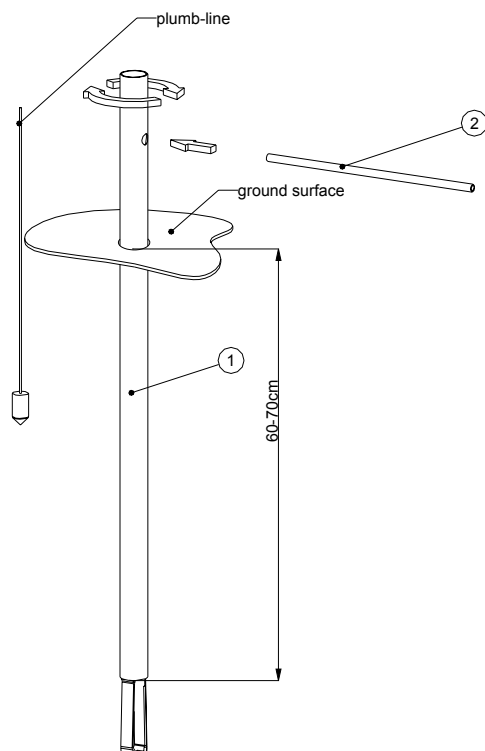

Fig 4: Assembly of the ring ball to the ring.
2. Mount the cable (12) to the ball (17) using one of the cable clamps (13), see fig 4.
3. Mount the other end of the cable to the ring (7) leading it trough the funnel (14). Length of the cable must be min 39 cm and maximum 40cm.